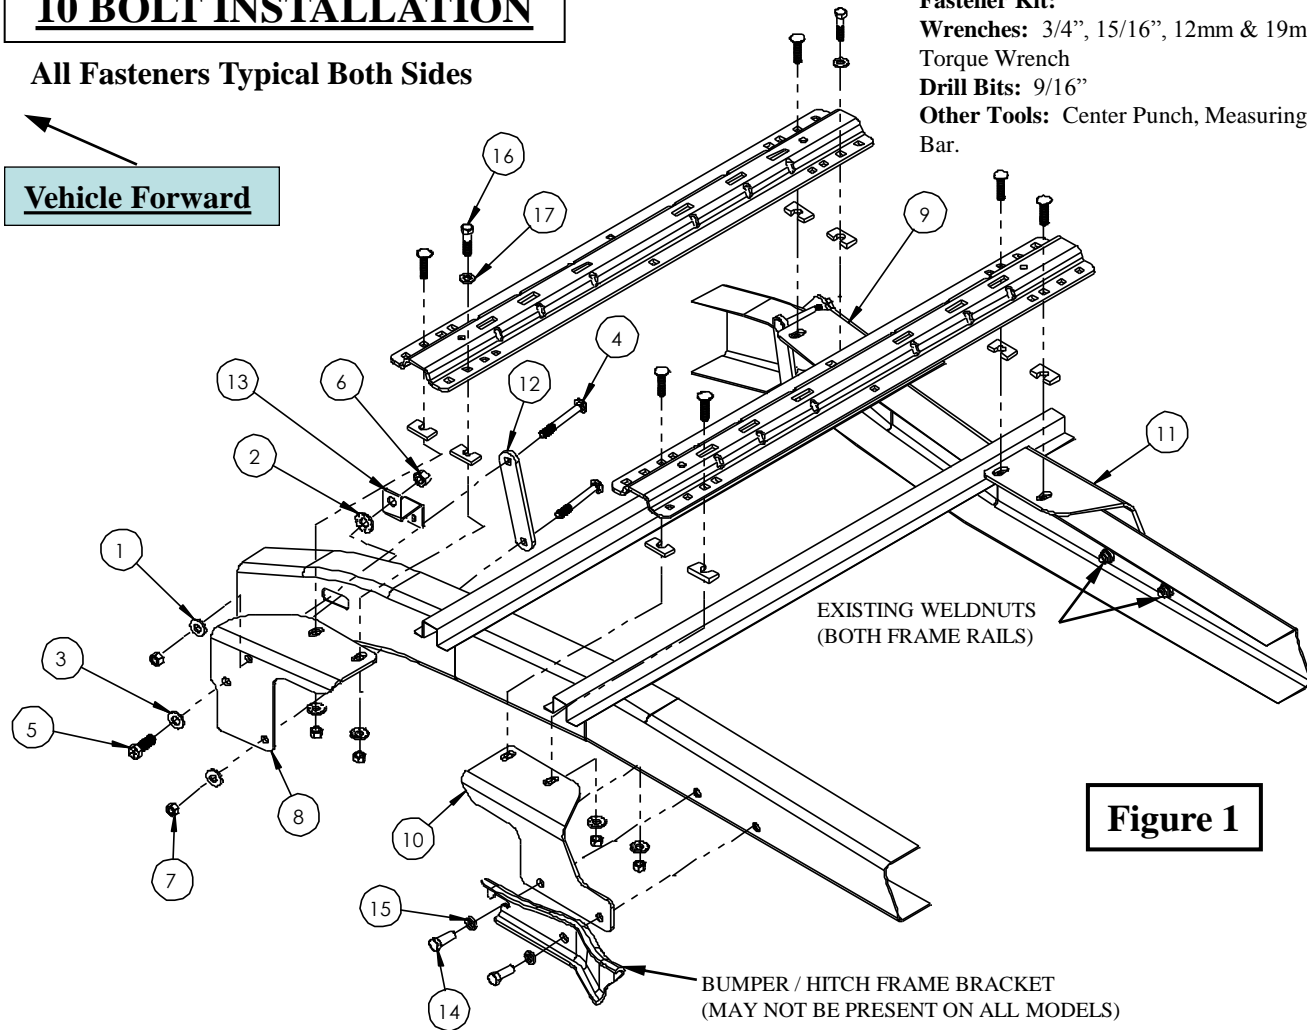

Figure 1
When installing to Figure 1 & 3, during drilling protect the fuel tank and filler tubes, brake lines and wire harness by placing a piece of metal between the box floor and potential components at risk on the driver's side. This will prevent drilling into these items.
2. For the driver's side front bracket placement, remove the nut on the outside of the frame that supports the existing electrical box. Will Reposition later: The electrical box using the provided S bracket and original frame fasteners to create additional space for the driver's side bracket strap. See Figure 1.